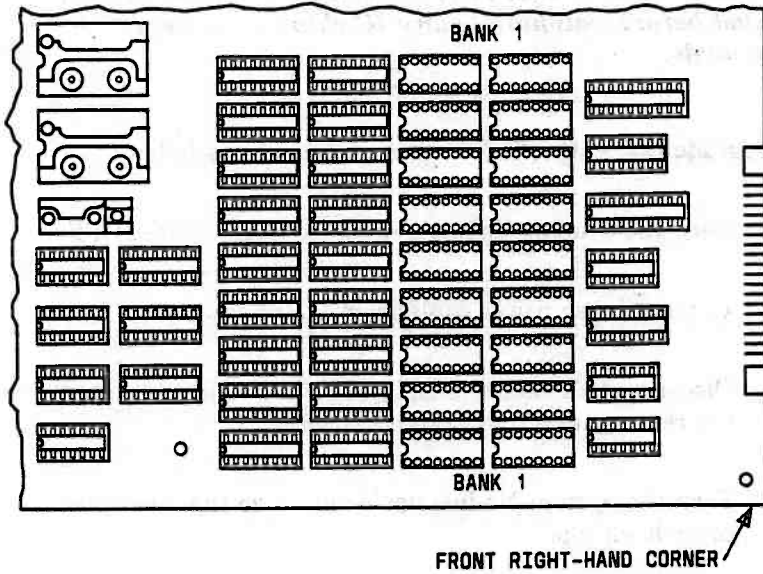

Figure 3-4. Locating Bank 1 on the Motherboard
7. Locate Bank 1 on the Motherboard (Figure 3-4).